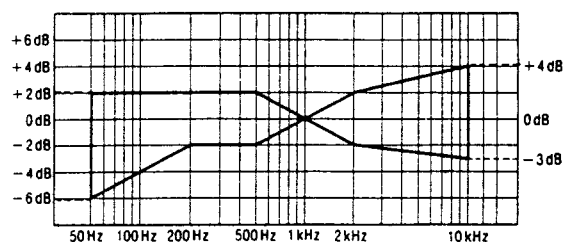

Fig. 15
5. Playback the recorded signal and assure that it is within the range shown in Fig. 15 in comparison to the reference frequency (1 kHz).